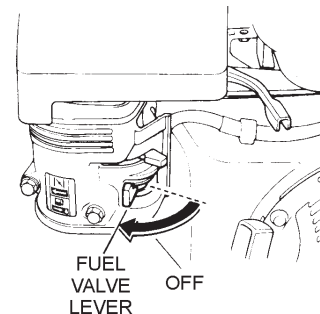

Figure 18. Fuel Valve Lever (OFF)
3. Place the **fuel shut-off lever** (Figure 18) in the **"OFF"** position.